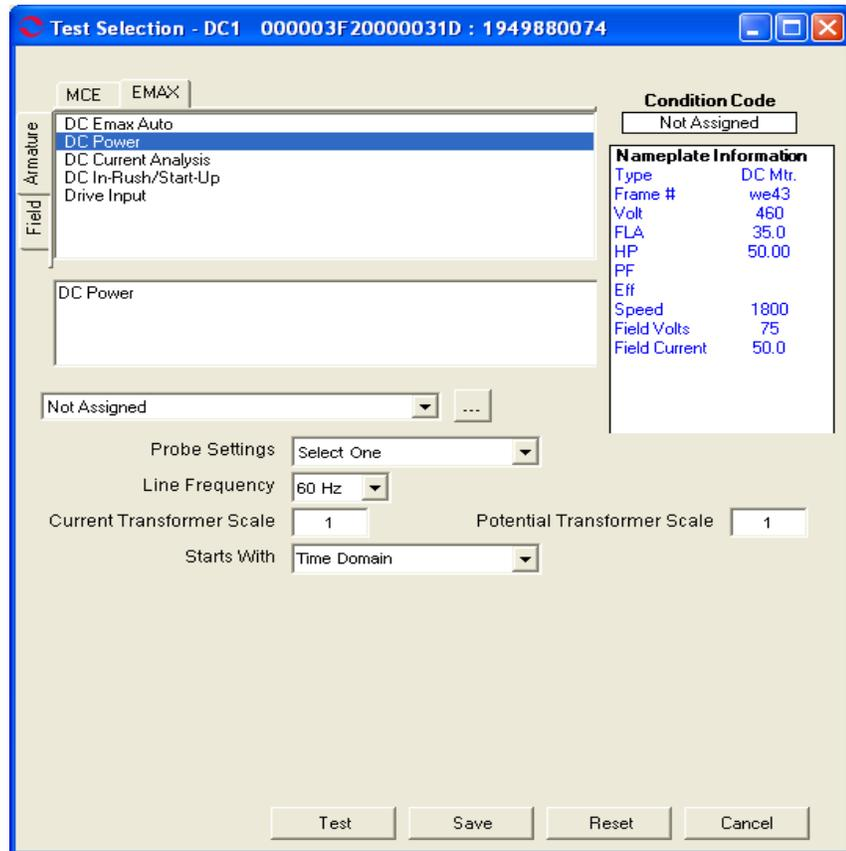

Figure 7-7: Power Test Selection Window - DC Asset
4. Select the Test Selection icon  on the toolbar. The Test Selection window, shown in Figure 7-7 opens.